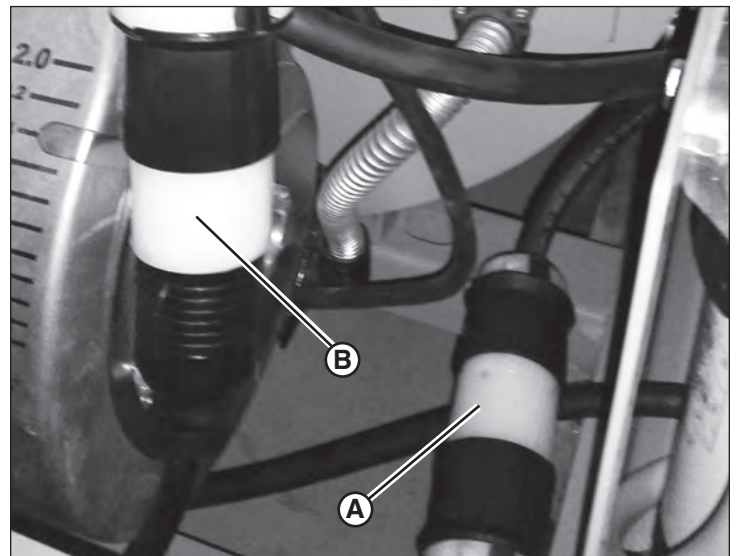

Figure 21
3. Locate the electrical connection near the floor of the heating unit control access compartment (A, Figure 21). Unplug the connection.